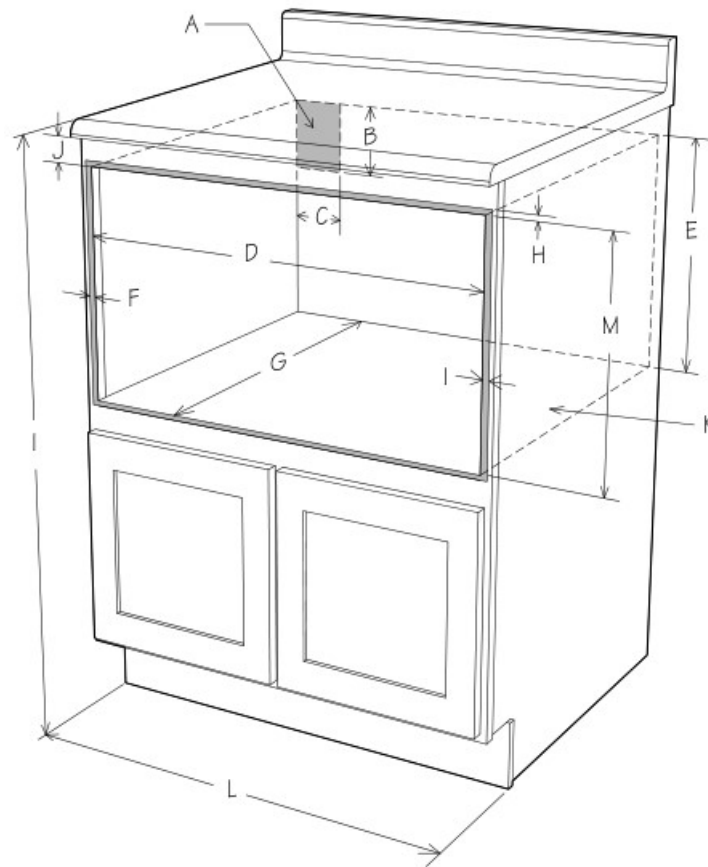

Figure 1
For SAFETY CONSIDERATIONS do not install drawer in any combustible cabinetry, which is not in accord with the stated clearances and dimensions on pages 2 – 4. See Figures 1 – 7.
- Dimensions that are shown in Figure 1 must be used. Given dimensions provide minimum clearance. Locate electrical outlet in the shaded area in the upper left-hand corner of the cutout. See Figure 9.
Figures 1 and 2 contain many Convection Microwave Drawer measurements for reference when planning the drawer's location.